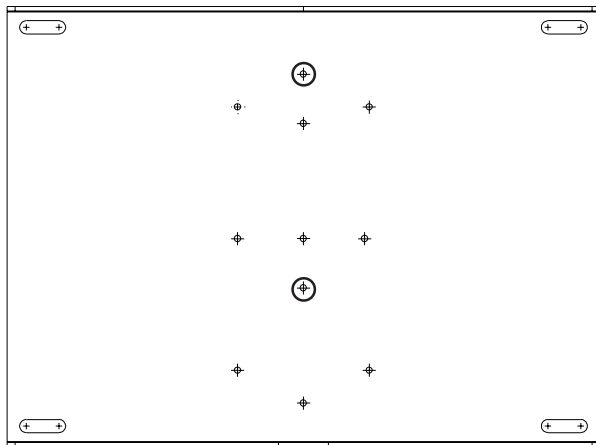

fig. 1.1
**1** **Note:** Align top hole of wall mount (A) with top hole on the wall plate as shown figures 1.1 and 1.2.